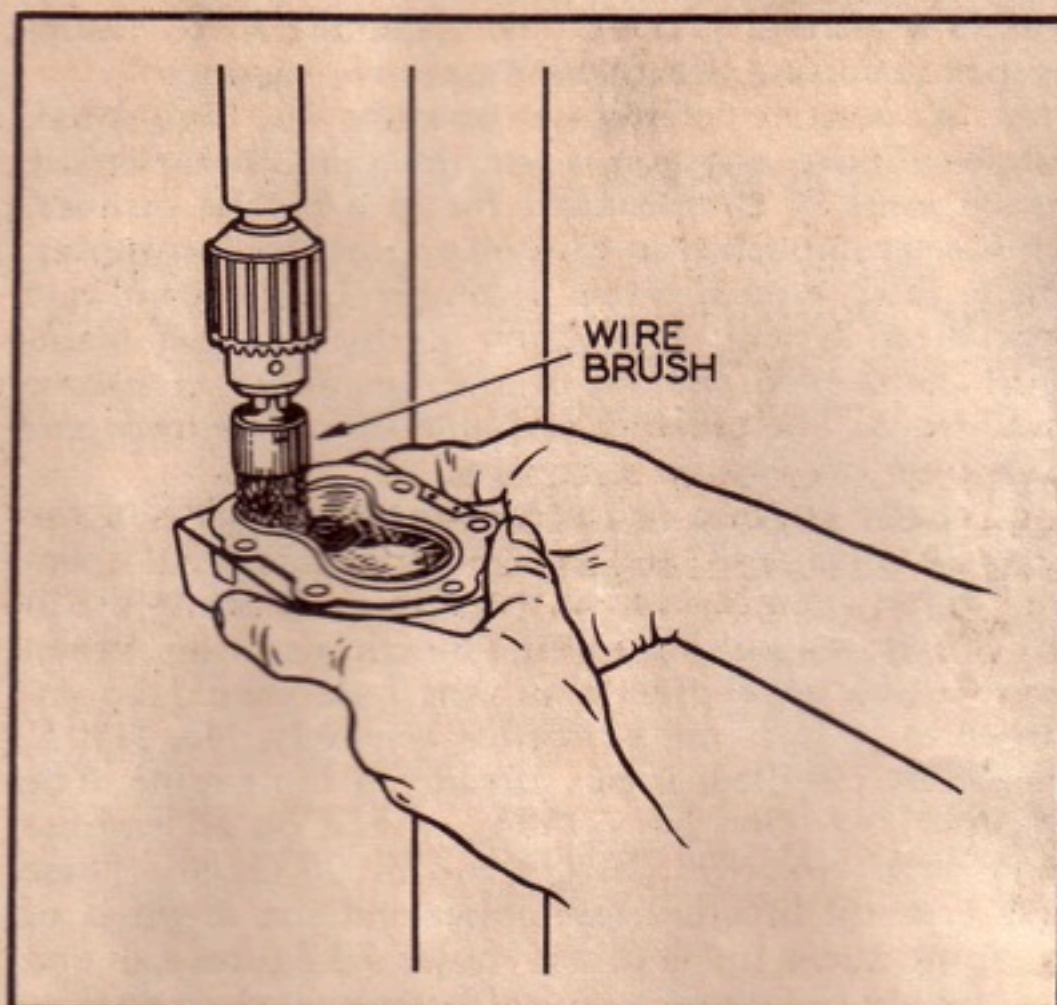

Figure C-4. Removing Carbon From Cylinder Head
4. Before inserting the cylinder head and piston into the cleaning solvent, scrape all carbon from the top of the piston with a putty knife or wire brush, and remove the carbon from the piston ring grooves with a special carbon scraper or by using the square end of a broken piston ring. Remove all carbon from the cylinder head with a wire brush. (See figure C-4.)